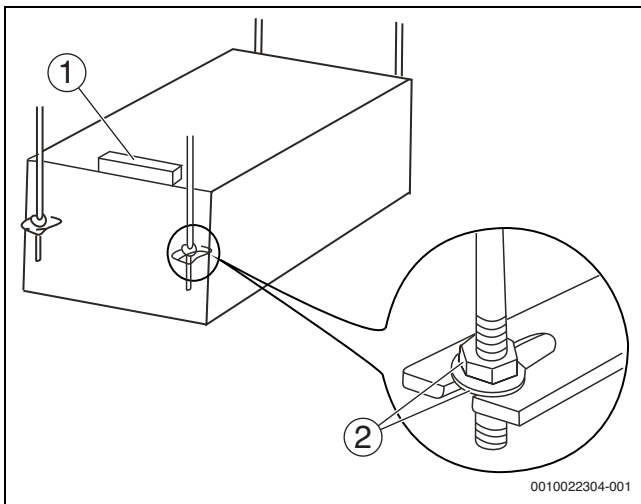

Fig. 16
4. Use a spirit level to verify that the unit body is level (→ figure 16). (Do not tilt downwards towards the side where no water is discharged. Best is to tilt to where water is discharged).